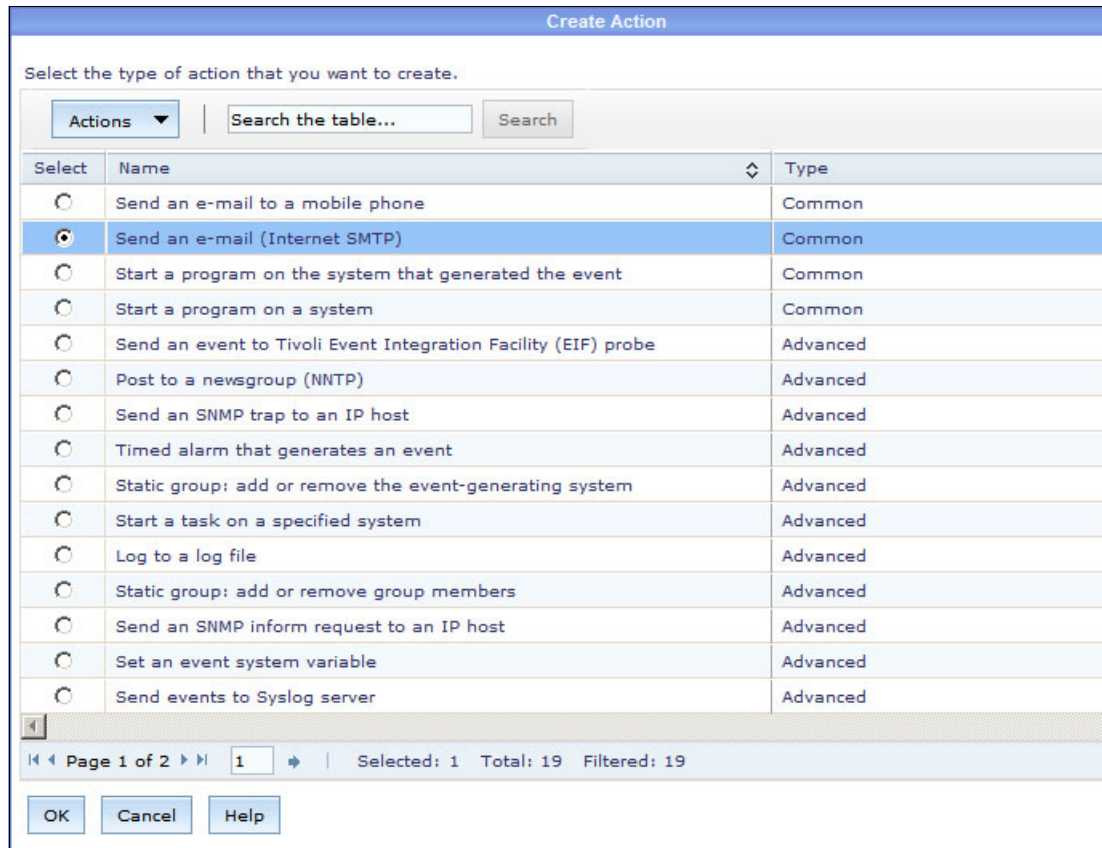

Figure 7-22 Create Action window: Choose an action
- Select the required action as shown in Figure 7-22 and click **OK**. In our example, we selected **Send an e-mail (Internet SMTP)**.